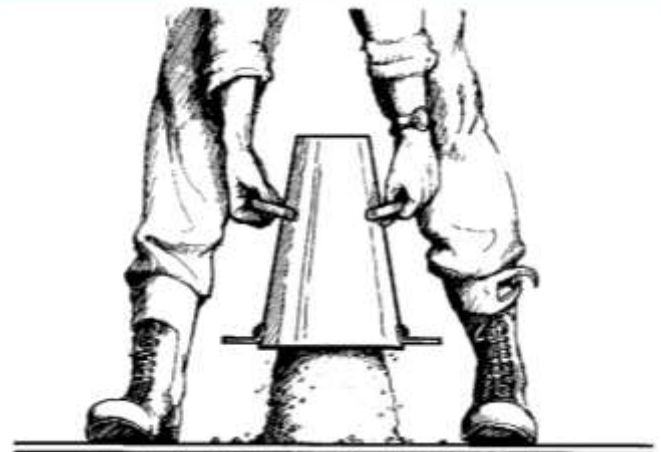

Figure 2
7. Slowly lift the slump mould straight up and off (See Figure 2).